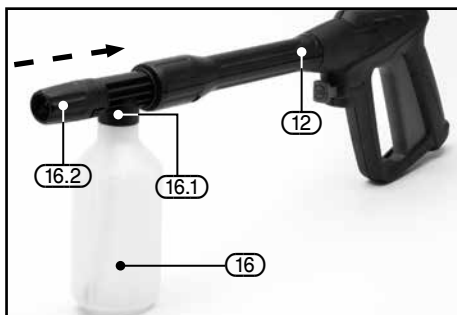

FIG.15
9.1 DETERGENT BOTTLE (98676) – FIG.15
- Remove the bottle spray nozzle (16.1) from the detergent bottle (16) and fill the bottle with a suitable detergent, according to the manufacturer's recommended instructions.
- Re-fit the bottle spray nozzle back onto the bottle, then connect the bayonet fitting of the bottle spray nozzle onto the trigger assembly section (12), using the same method as attaching the lance – by pushing in the bayonet fitting and turning anti-clockwise 45° to lock in place.